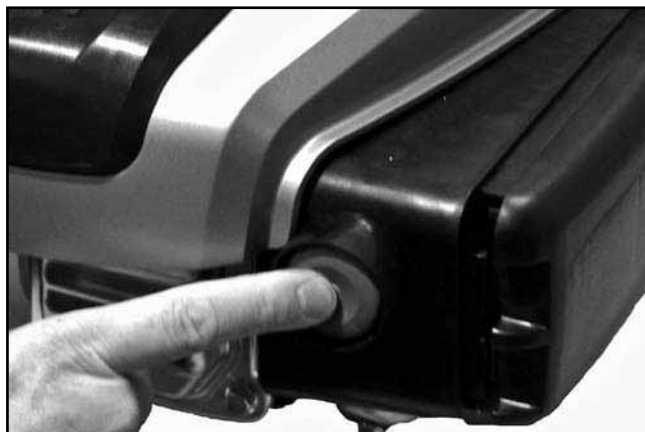

Figure 5-15. Primer Bulb.
1. **For a Cold Engine**, firmly push the primer bulb 3 times. See Figure 5-15. Pressing the primer bulb too many times can flood the engine. For a warm engine no priming is required. Also refer to the operating instructions of the equipment this engine powers.
2. Connect the Bowden cable to the control arm on the speed-control bracket. For correct hole selection, refer to the operating instructions of the equipment this engine powers. See Figure 5-15.